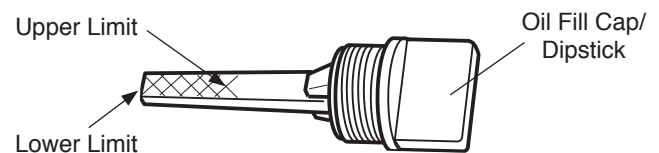

Figure 11
4. When oil level is full, the oil will be at upper limit on dip stick. If oil level is near or below the lower limit, oil must be added. (See Figure 11)